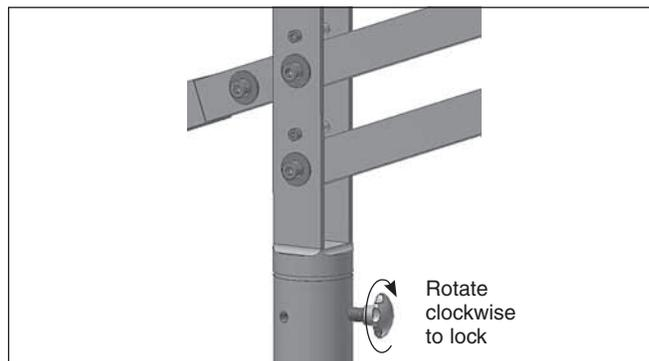

Fig. 1.3.
1.3. Rotate the parallelogram in relation to the base. If desired you can “lock” the azimuth position of the parallelogram by tightening the hand knob (**Fig. 1.3**). The hand knob acts more like a soft brake than a lock and does not completely prevent the rotation of the parallelogram mount.